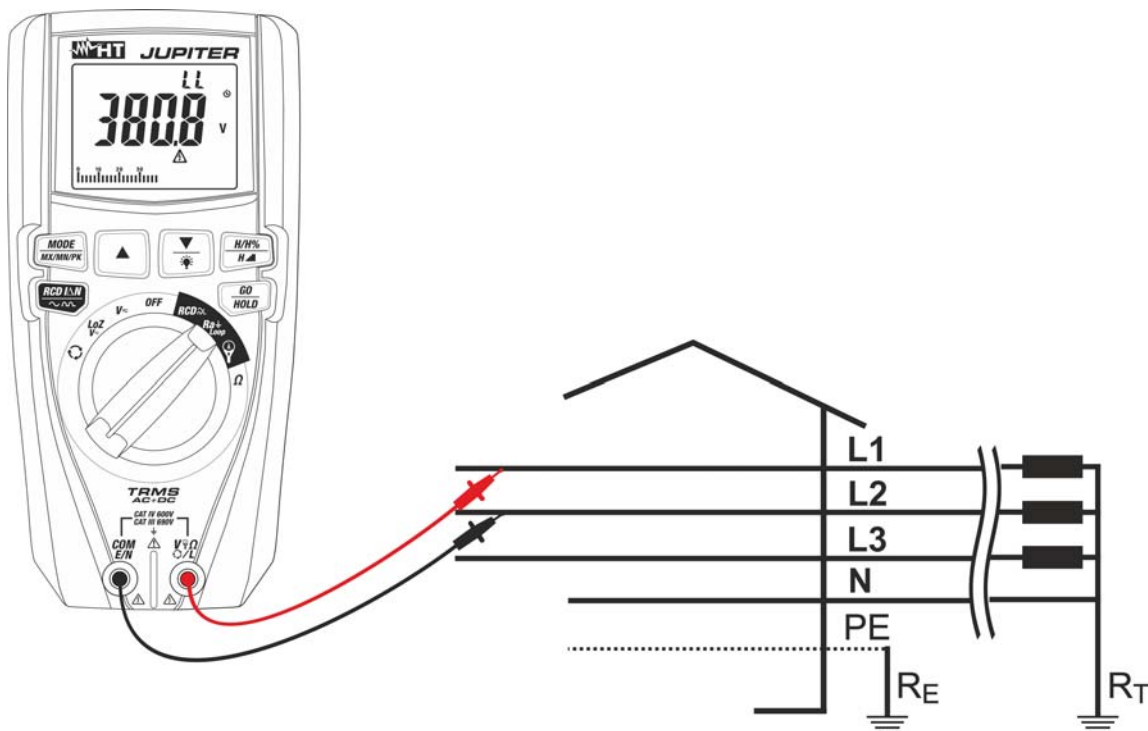

Fig. 27: Use of the instrument for measuring Loop L-L impedance with leads
9. **For Loop L-L measurements**, in case measuring leads are used, insert the red conductor into input terminal $V_{\Omega} \text{ L}$ and the black conductor into input terminal **COM/E/N** and connect the instrument to the system to be tested (see Fig. 27). The value of phase-to-phase voltage is shown on the display